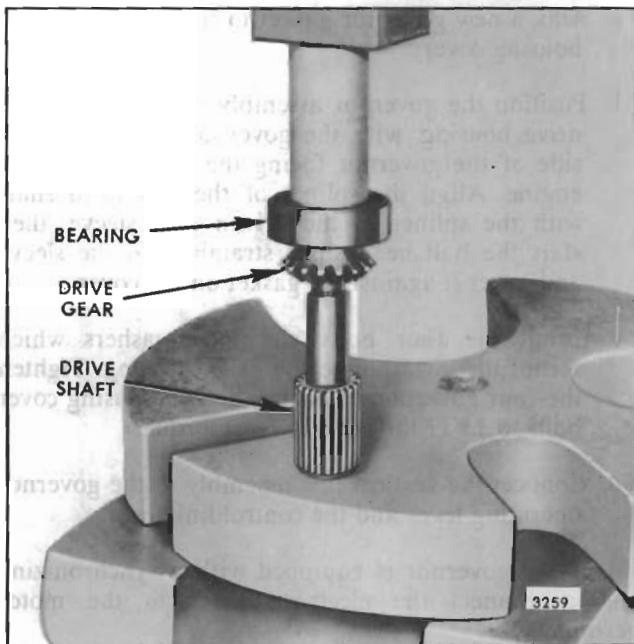

Fig. 8 - Installing Drive Gear and Bearing on Drive Shaft
- d. Place the drive shaft, gear and bearing assembly on the bed of an arbor press with the bearing and gear end up (Fig. 8). Then place a sleeve or a round brass bar on the inner race of the bearing